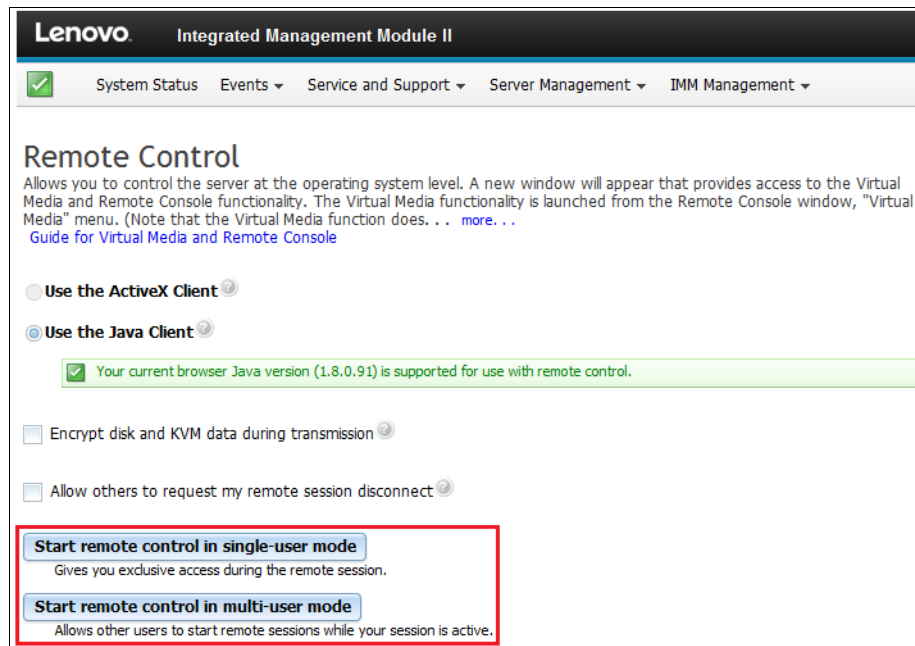

Figure 7-5 IMM2 Remote Control page
- If you want exclusive remote access during your session, click **Start Remote Control in Single User Mode**. If you want to allow other users remote console (KVM) access during your session, click **Start Remote Control in Multi-user Mode**, as seen in Figure 7-5.